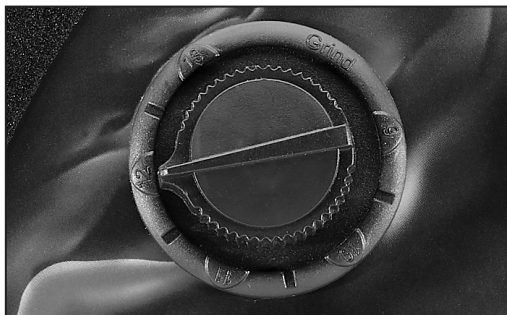

FIG. 7
- Delay time (11) is time from dark to light, Step-less control.
- When welding current is large and the light of molten pool is very strong, you need to select the delay (11) to high, so you can avoid the eye injury by the light of molten pool.
- If you want to do spot welding, you need to put the delay (11) to low, so you can improve the work efficiency.
- Adjust delay (11) to middle place is suitable for most of welding projects.
7.4 WELDING/GRINDING/CUTTING FUNCTION – FIG.7